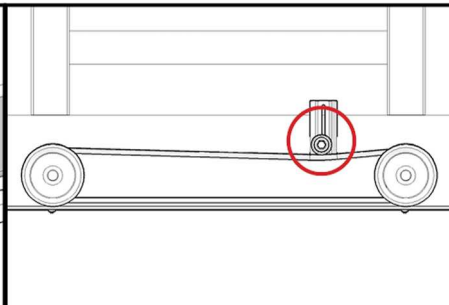

Fig. 02
- * Verificar o aperto da correia *Fig.02*;
- * The belt should be tight if it really is necessary, *Fig.02* figure;
- * Check the tightening of the belt Fig.02;
- * Comprobar el apriete de la cinta Fig.02;